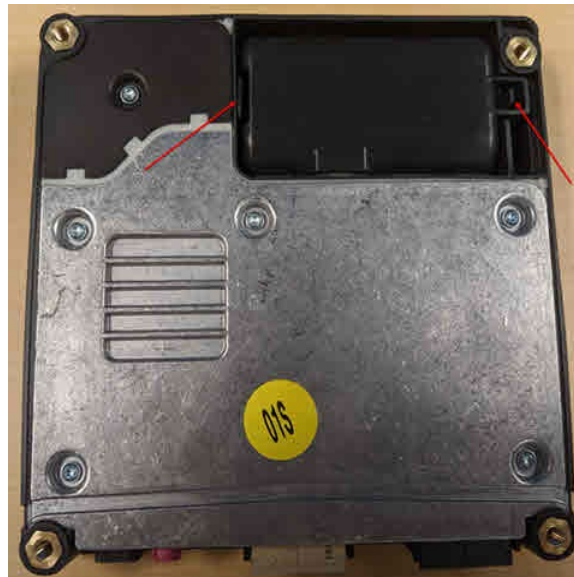

Figure 2. Backup battery compartment location.
2. Open the battery compartment of the telematics control module, -J949- (address word 0075), and disconnect the backup battery (Figures 2 - 3).